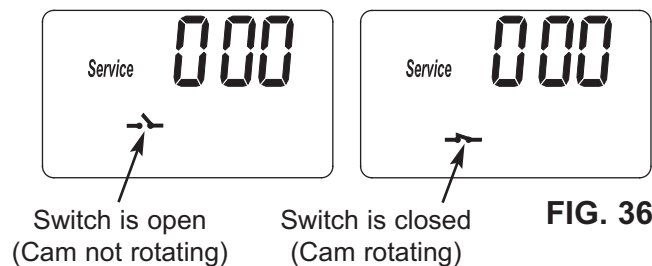

FIG. 36
3. Symbols in the display indicate POSITION switch operation (See Figure 36).